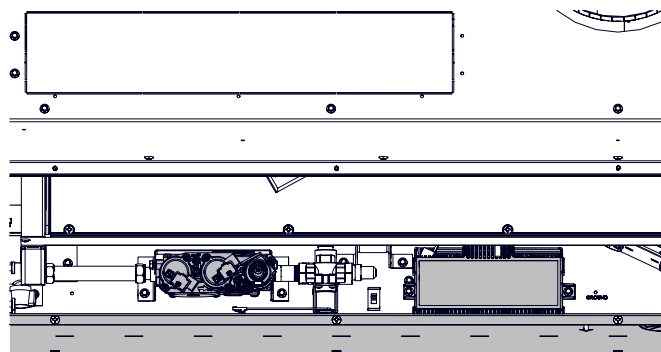

Fig. 4
3. Access the controls through the gap between the control cover and the firebox (**Fig. 4**).